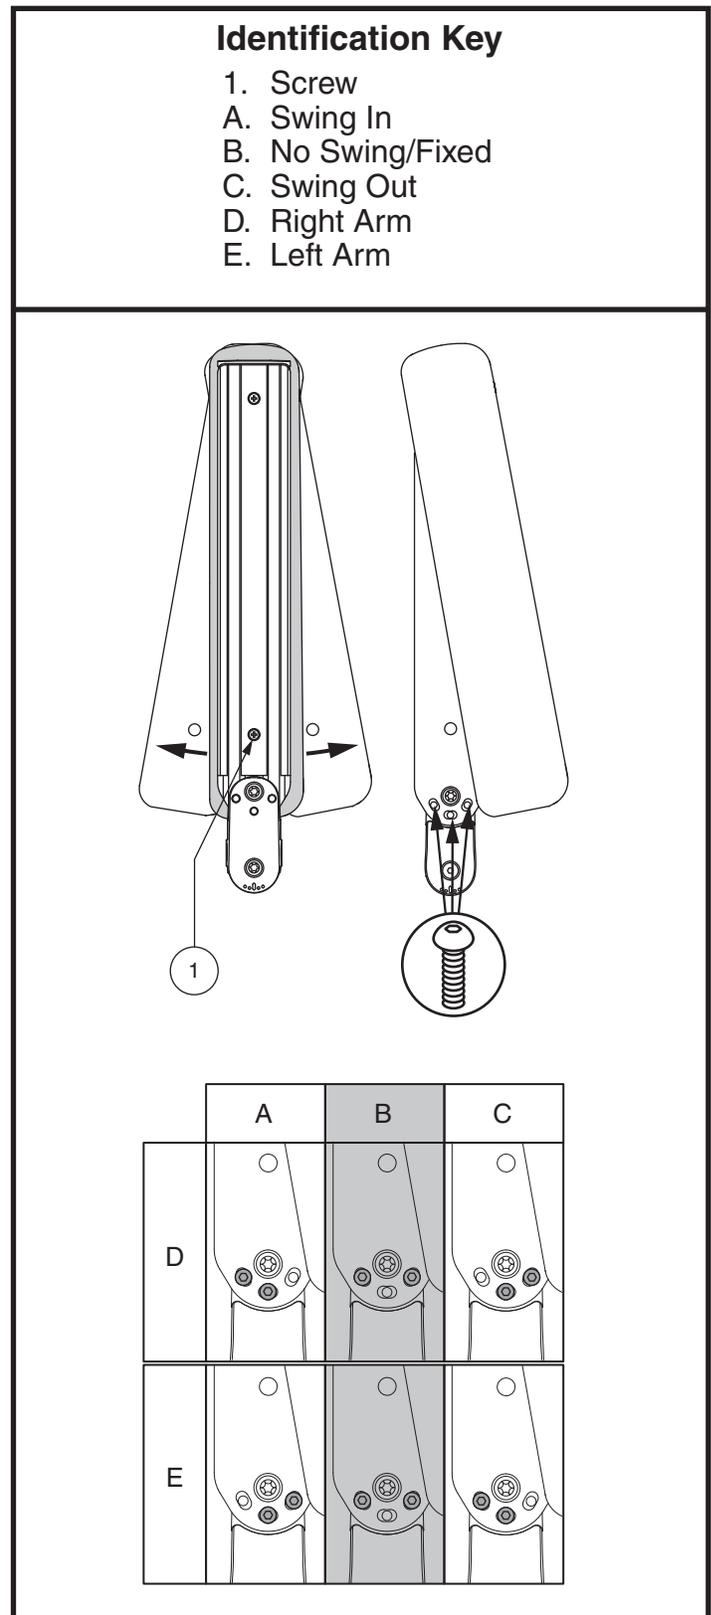

Figure 10. Flip-up Armrest Swing Adjustment
2. Remove the screw on the bottom of the armrest and rotate armpad to gain access to adjustment screws. **See figure 10.**